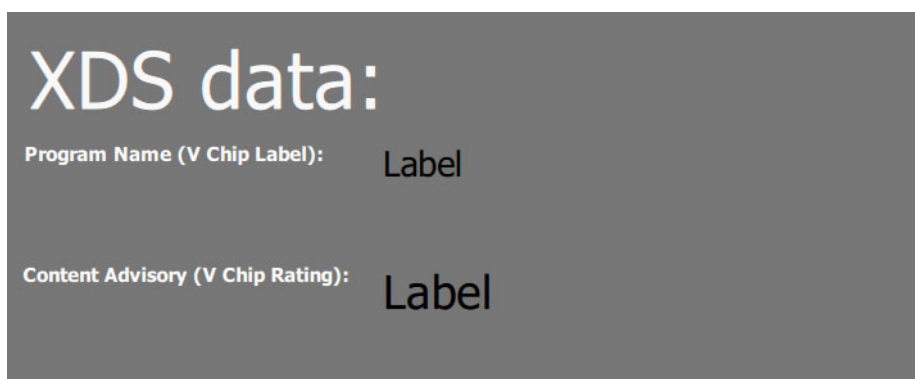

Fig. 7-4: Comment Labels Added to the Tile
- 11 Further comments may be added onto the tile using labels, as shown in Figure 7-4.